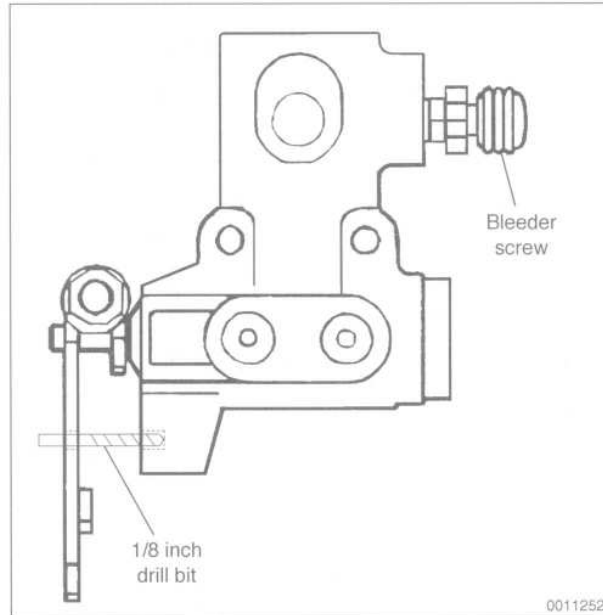

Fig. 18. LAD regulator valve. Lock the lever in position by inserting a $\frac{1}{8}$ in. drill bit through hole in lever.
4. Using the ride height specifications given earlier under **Ride Height**, move the LAD regulator valve lever forward or rearward until the height is correct. Then lock the lever in the center position by inserting a small ($\frac{1}{8}$ in.) drill bit through the lever and into the valve body. See Fig. 18.
2. Place a drain pan beneath the LAD regulator valve and loosen the bleeder screw to relieve the system pressure. See Fig. 18 given earlier.